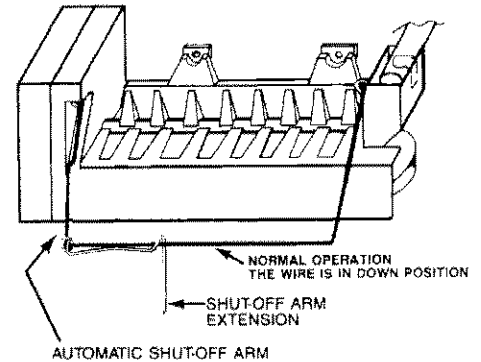

FIGURE 22
1. **Normal Operation:** the wire arm is in the down position; ice will be made. As the bin fills the arm will raise. Ice production will automatically stop when the bin is full. See Figure 22.